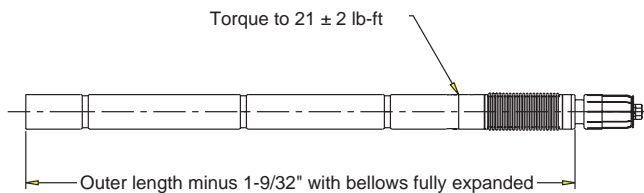

Figure 4
- 2 Subtract 1-9/32" from outer conductor length to obtain inner conductor length, Figure 4.